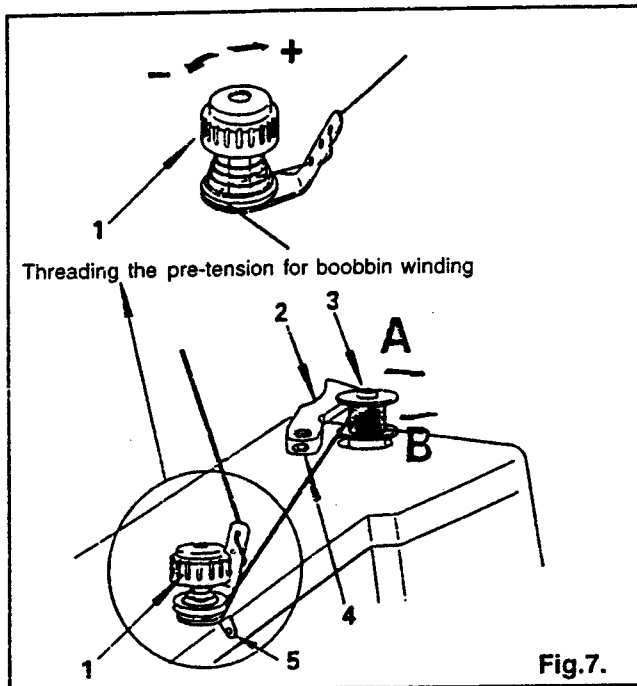

Fig. 7.
2. Place bobbin on bobbin winder spindle (3), Fig. 7, pushing it on as far as it will go. Pre-tension (1) (See Fig. 7)
3. Push latch (2) in the direction indicated by arrow (A), then start the machine. (See Fig. 7)
Bobbin winder spindle (3) rotates in the direction indicated by arrow (B). (See Fig. 7)